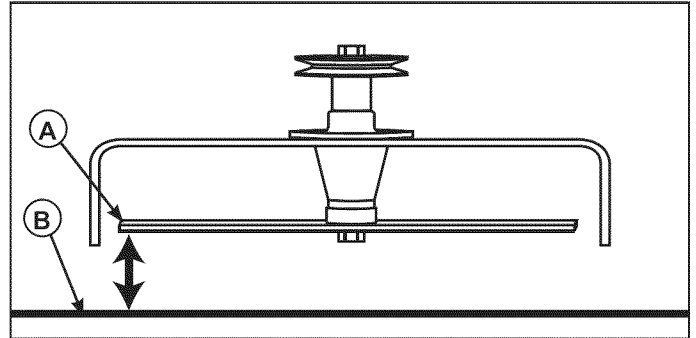

Figure 22. Measure Blade Tips to Ground
4. Measure the distance between the outside tips of each blade (A, Figure 22) and the ground (B). If there is more than 1/8" (3 mm) difference between the measurements on each side, proceed to step 5. If the difference is 1/8" (3mm) or less, proceed to step 6.
7. Measure the distance from the ground to the front tip of the center blade and from the ground to the rear tip of the rear blades (Figures 22 & 24). The front tip of the front blade should be 1/8" - 1/4" (3 - 6 mm) lower than the rear tips of the rear blades. If not, proceed with steps 8 - 9.